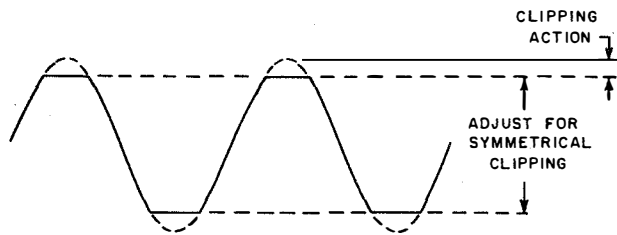

Figure 7-60. Symmetrical Clipping Waveform
*Step 6.* Adjust GAIN TO CLIP control (M) until a small amount of clipping of the 1,000-cps signal appears on the oscilloscope. This is evidenced by flattening of the peaks of the 1,000-cps sine wave.
*Step 7.* Adjust CLIPPER SYM. control for symmetrical clipping on top and bottom of the sine wave, figure 7-60. Readjust control (M) as necessary to maintain the desired signal amplitude.
2. GAIN TO CLIP (M) AND SQUELCH TRIG. (L) CONTROLS.—The GAIN TO CLIP (M) con-
trol is a front panel control knob and its adjustment is a function of operation. Section 4 indicates the method for proper adjustment of this control. It should provide clipping action as indicated in figure 7-60. SQUELCH TRIG. (L) control is also a front panel control knob adjusted as a function of operation. Setting this control adjusts the speech signals to noise level ratio during pauses in speech. Refer to Section 4 for the procedure of adjusting this control during operation.
3. 500 W. AUDIO LEVEL CONTROL.—The 500 W. AUDIO LEVEL control is a unit adjustment used as a modulation compensating control during 500-watt operation. It is adjusted to provide 100 percent modulation in 500-watt operation. With % MOD. control (N) properly adjusted (see paragraph 6a(1)) for 100-watt operation, the 500 W. AUDIO LEVEL is adjusted to provide 100 percent modulation at the 500-watt level. Use the percentage modulation adjustment method as outlined in paragraph 6a(1).